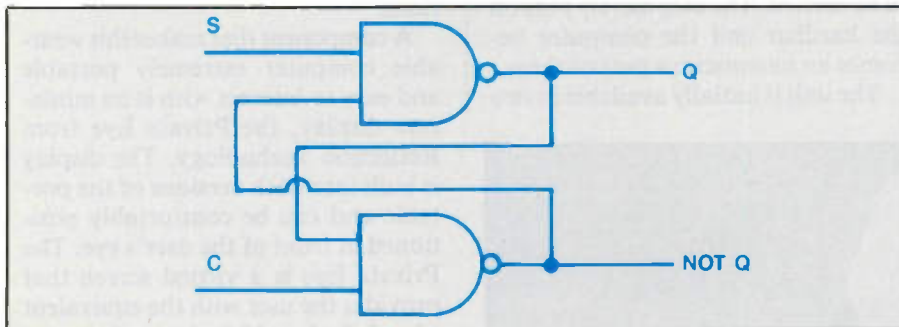

Figure 1
1. Which of the following inputs is not valid for the circuit of Figure 1?